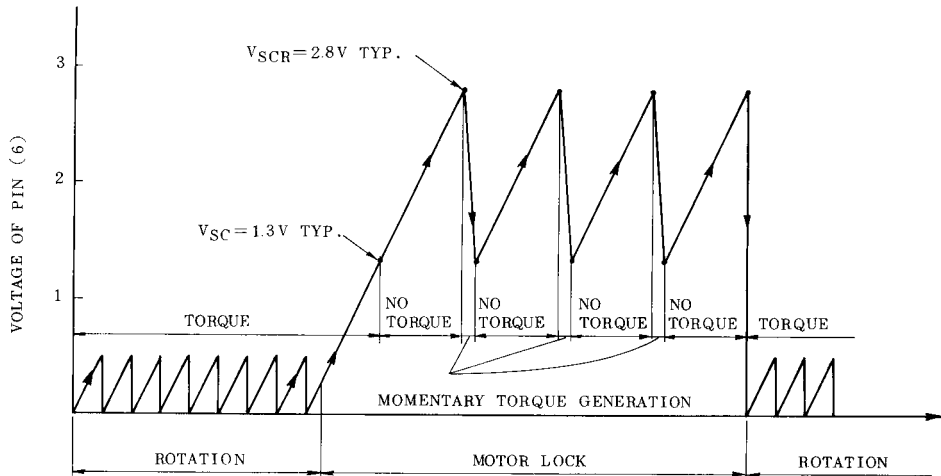

Fig. 1 Operation of Automatic Self Recovery Circuit
Fig. 1 shows ⑥ pin voltage and the operation of this functions are follows.